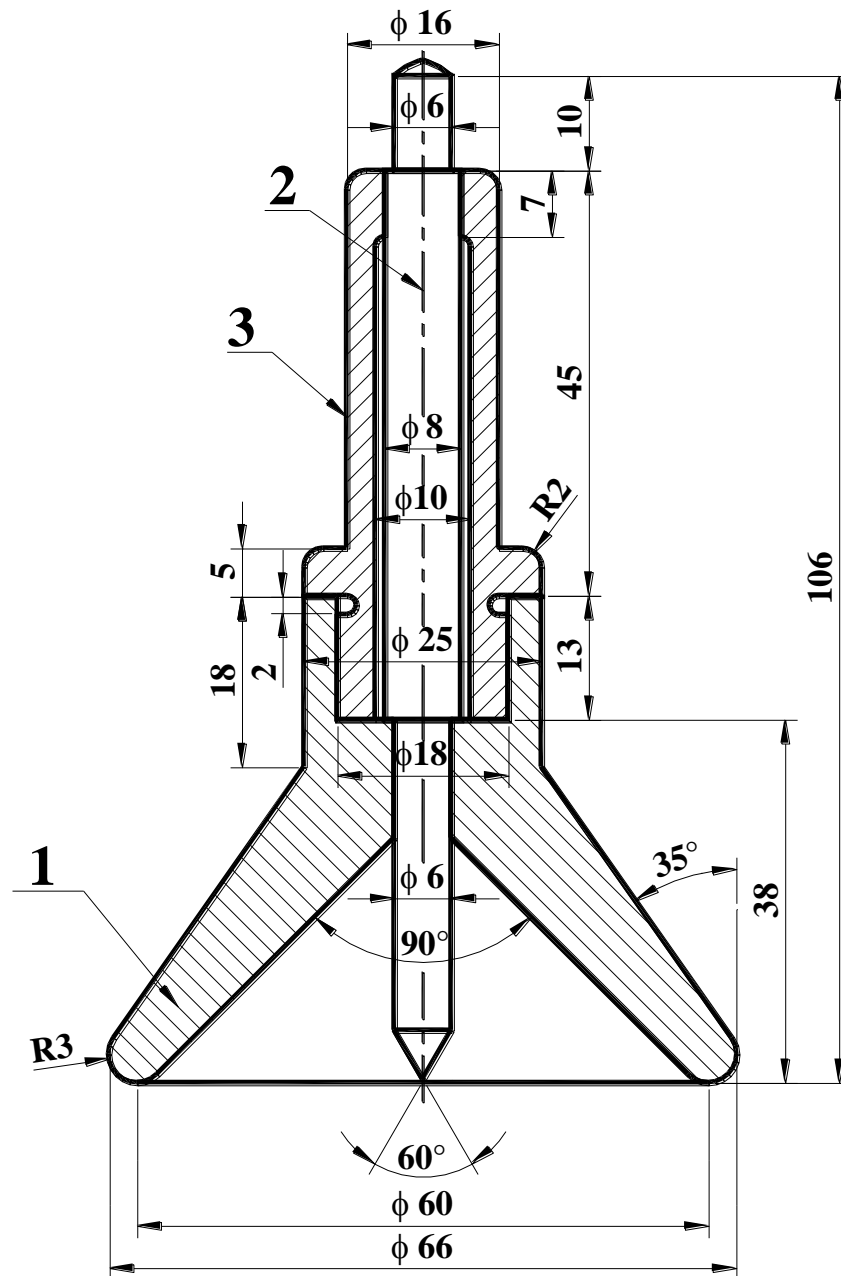

**Figure T6.4**
4. Redraw a single line and a double line drawing of the portion of a piping system as shown in *Figure T6.4*.